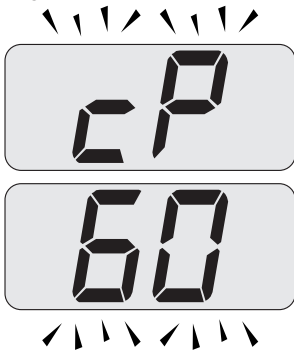

Fig. 10.22
- Press key 18 to vary the output in chimney sweep mode: when the LCD display displays the letters **hP** that alternate with the heating water temperature value (e.g. **60**), the "flue sweep function" is at maximum (eventually range rated) output in heating mode (Fig. 10.22).